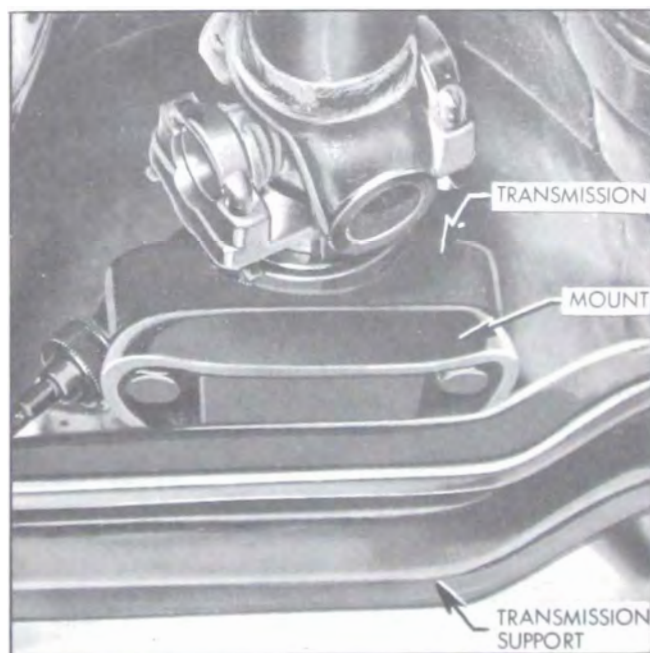

Figure 2-70—Rear (Transmission) Mount
1. Remove bolts and nuts holding transmission mount to support. Remove mount to transmission bolts. See Figure 2-70.